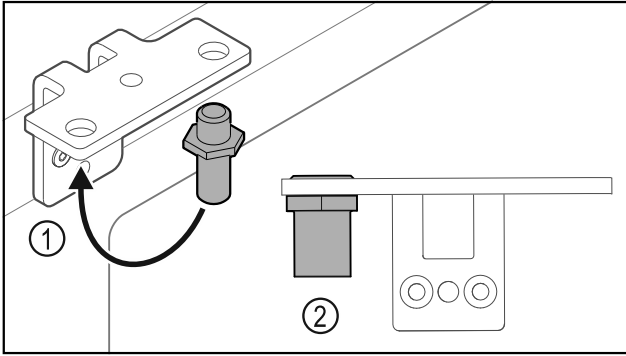

Fig. 22
- ▶ Put the pin back into the hinge Fig. 22 (1).
- ▶ Tighten the pin Fig. 22 (2) to a **torque of 12 Nm (9 ft-lb)**.